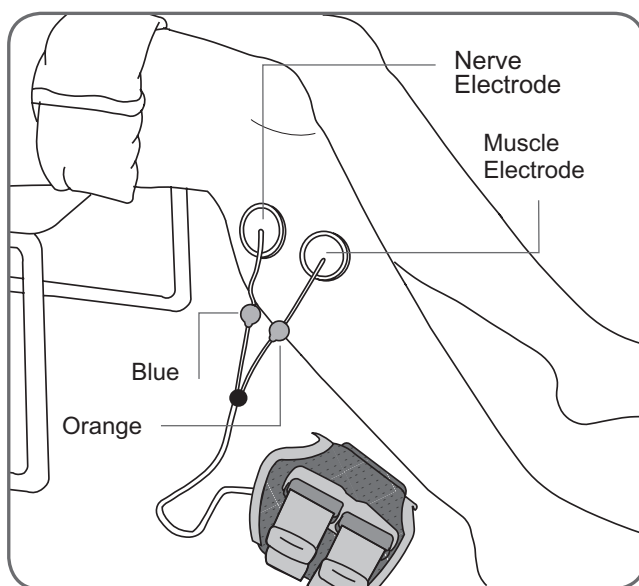

Figure 8-13: The fitting cable connected to the L300 FS Cuff and L300 electrode bases.
3. Place the L300 FS Cuff close by. See Figure 8-13.